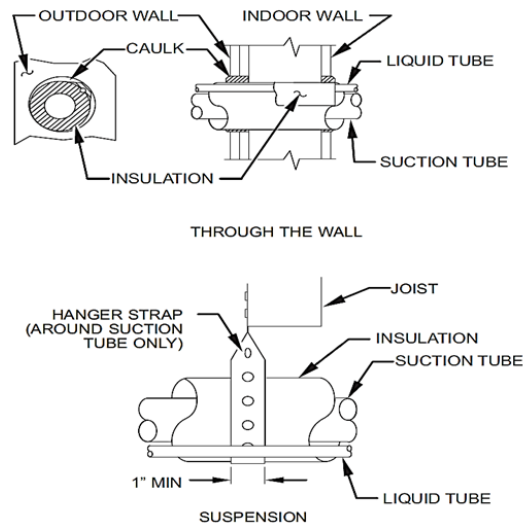

Fig. 3 Connecting Tubing Installation
5. When passing refrigerant tubes through the wall, seal opening with RTV or other pliable silicon based caulk. (See Fig. 3.)
7. Do not suspend refrigerant tubing from joists and studs with a rigid wire or strap that comes in direct contact with tubing. (See Fig. 3.)
9. When necessary, use hanger straps which are 1 in. wide and conform to shape of tubing insulation. (See Fig. 3.)